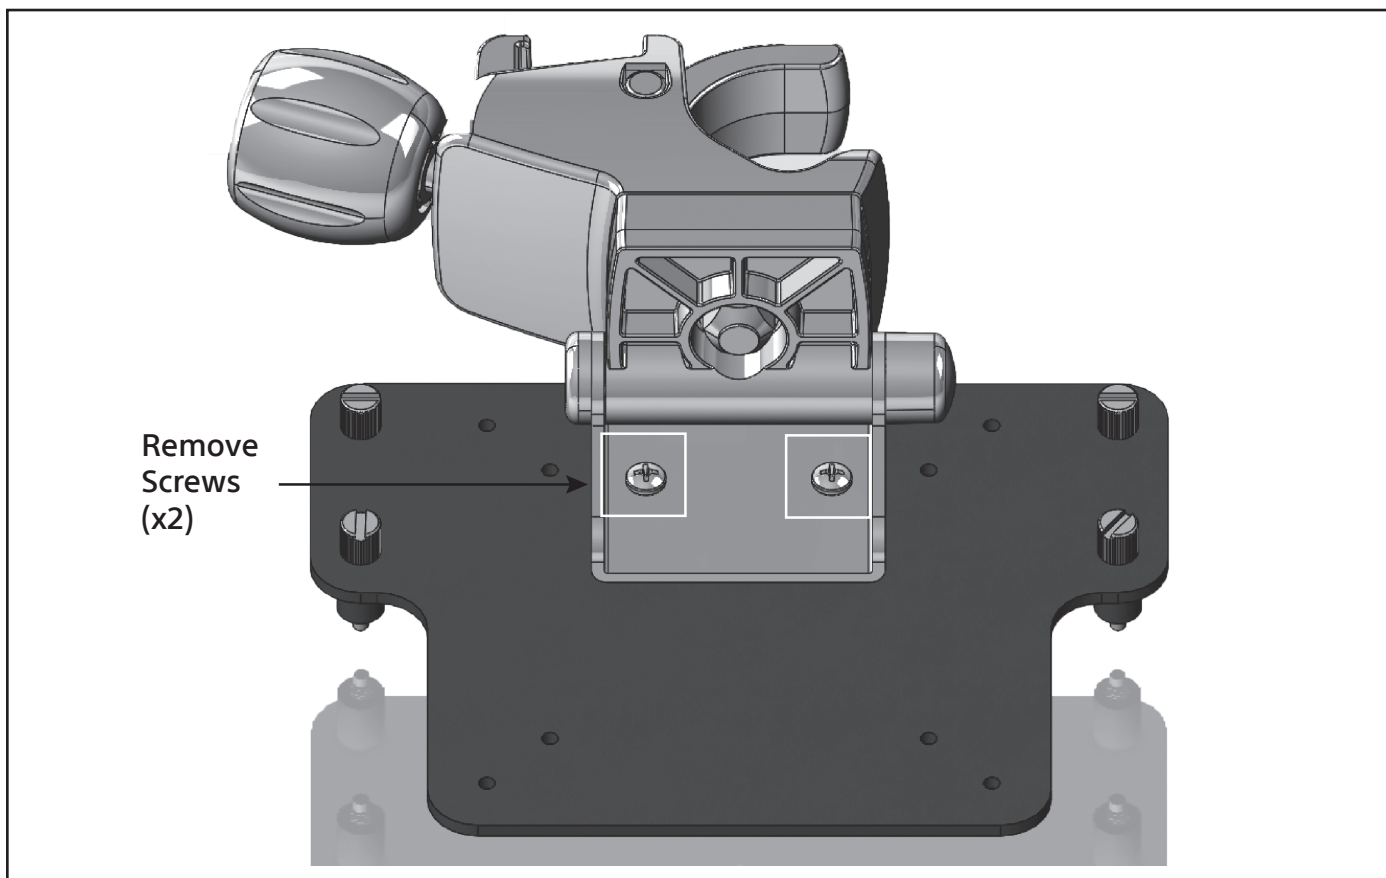

Figure 18. Remove Screws
3. Using a #2 Philips head screwdriver, remove the screws shown in Figure 18.